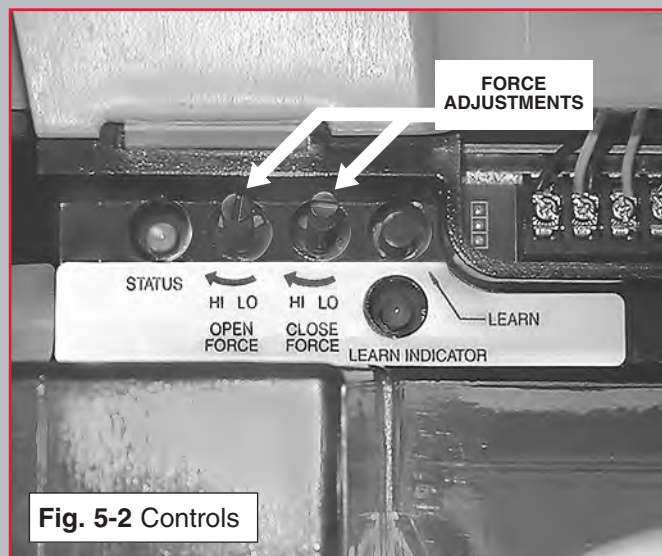

Fig. 5-2 Controls
2. Adjust "CLOSE" limit switch (Fig. 5-2).
3. Adjust "OPEN" limit switch (Fig. 5-2).
1. Adjust "OPEN FORCE" (Fig. 5-2).
2. Adjust "CLOSE FORCE" (Fig. 5-2).